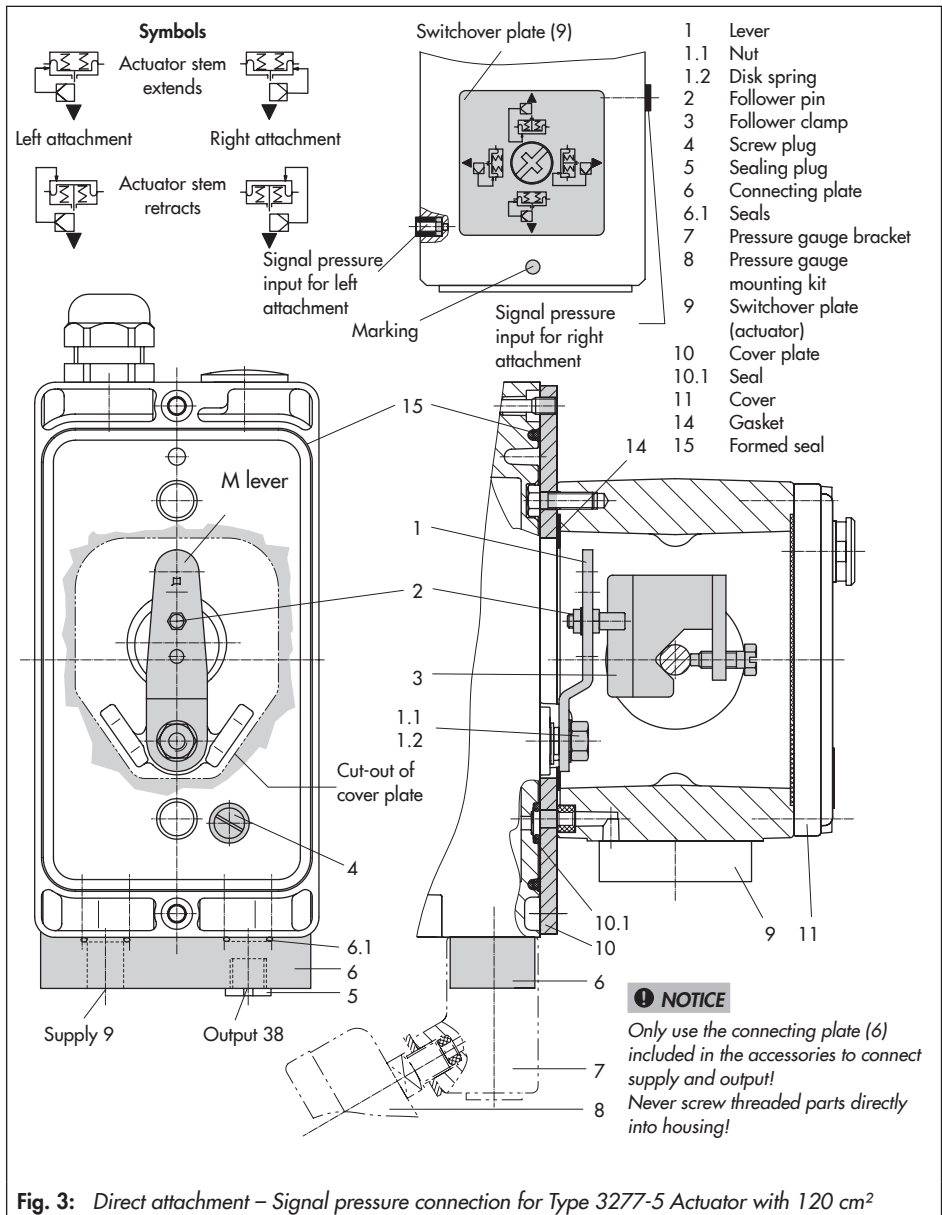

Fig. 3: Direct attachment – Signal pressure connection for Type 3277-5 Actuator with 120 cm²
Actuator with 120 cm² (see Fig. 3)
1. Mount connecting plate (6) or pressure gauge bracket (7) with pressure gauges on the positioner, making sure the two seals (6.1) are seated properly.
2. Remove screw plug (4) on the back of the positioner and seal the signal pressure output (38) on the connecting plate (6) or on the pressure gauge bracket (7) with the stopper (5) included in the accessories.
3. Place follower clamp (3) on the actuator stem, align it and screw tight so that the mounting screw is located in the groove of the actuator stem.
4. Mount cover plate (10) with narrow side of the cut-out (Fig. 3, on the left) pointing towards the signal pressure connection.